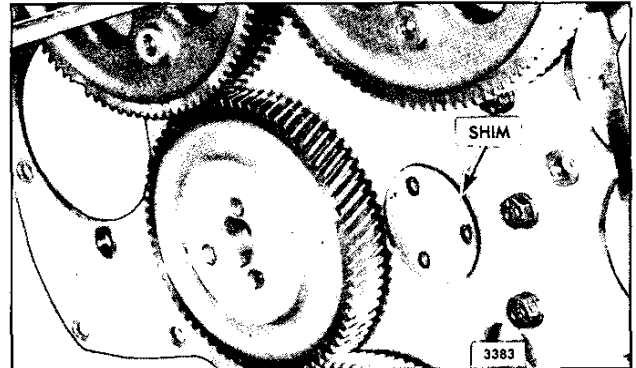

Fig. 2 - Location of Shim
3. If the flywheel housing has an integral cast hub, install a flywheel housing-to-end plate shim (.015" thick). Use grease to hold the shim to the cylinder block rear end plate (Fig. 2).